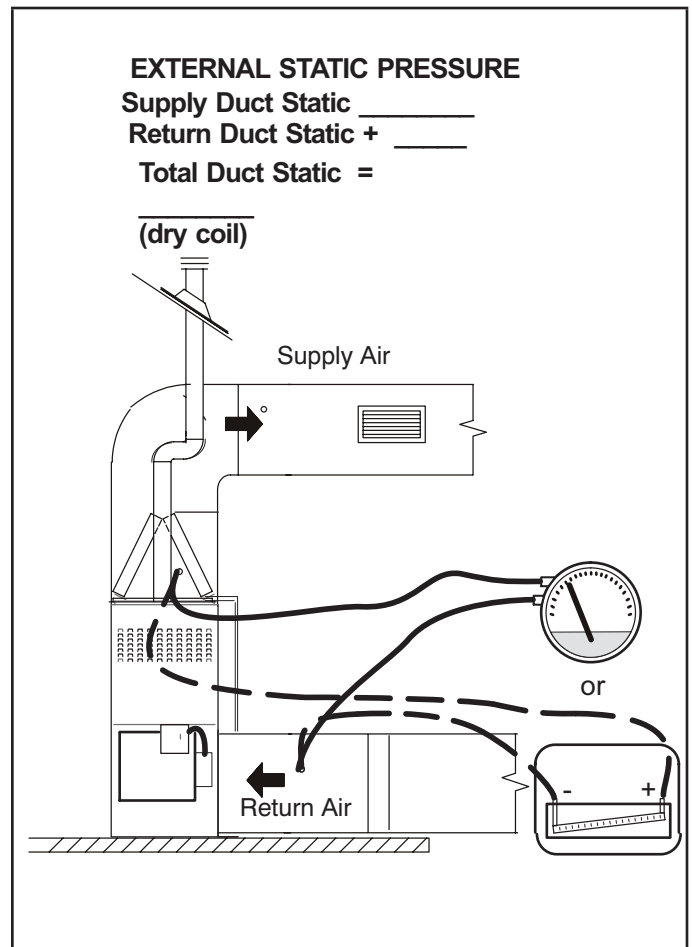

FIGURE 20
- 1 - Tap locations shown in FIGURE 20.